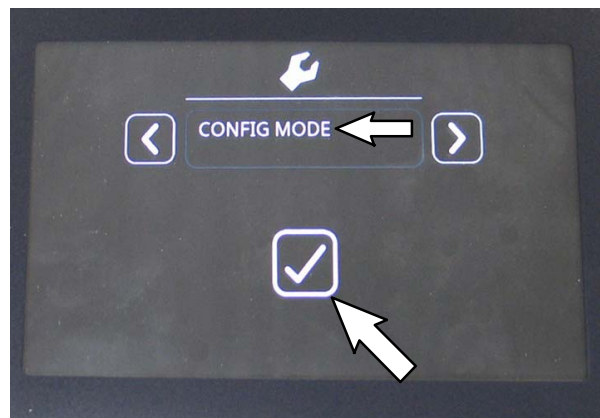

FIG. 24
20. Use the left arrow button and right arrow button to scroll to the Configuration Mode. Press the Check Mark button to access the configuration mode. (Fig. 24)